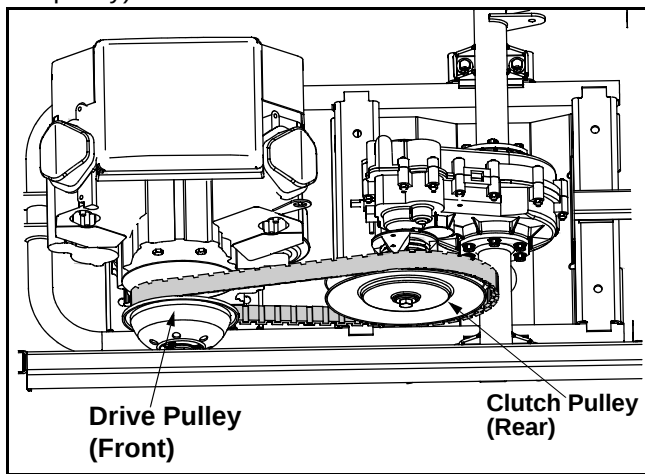

Figure 18
- Route belt from drive pulley (rear pulley). See Figure 18.